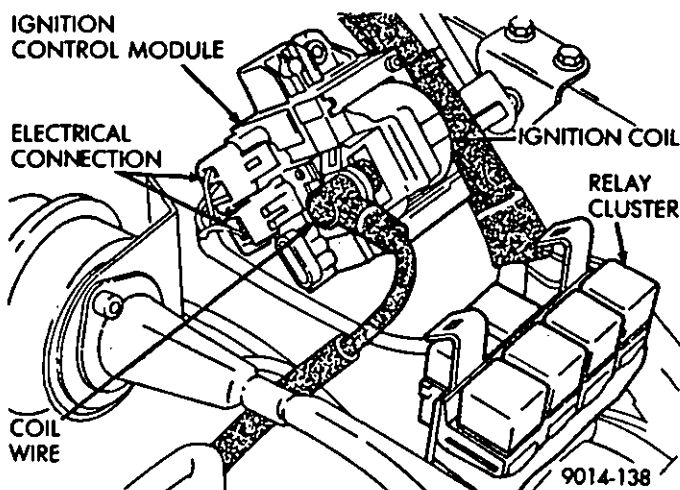

Fig. 21—Engine Control System Relays, Ignition Control Module/Ignition Coil
(3) Inspect all engine control system relays connections. Inspect relays for signs of physical damage and corrosion (Fig. 21).
(4) Inspect ignition control module connections. Verify that coil wire is connected to coil (Fig. 21).